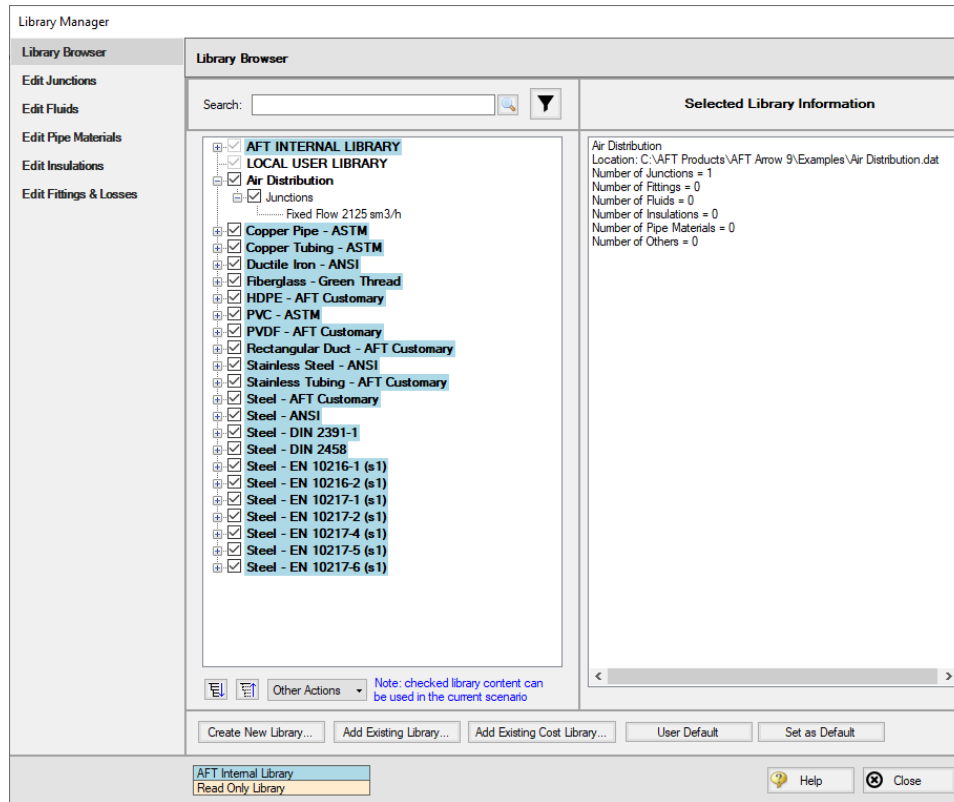

Figure 1: Library Manager showing the components moved to the new external library from the local user library
5. For the compressor that we added earlier, right-click the name, then click Move Content to move the junction from the LOCAL USER LIBRARY to the Air Distribution library. The Fixed Flow 2125 sm3/h compressor should now be visible in the Junctions section below the Air Distribution library name, as is shown in Figure 1.